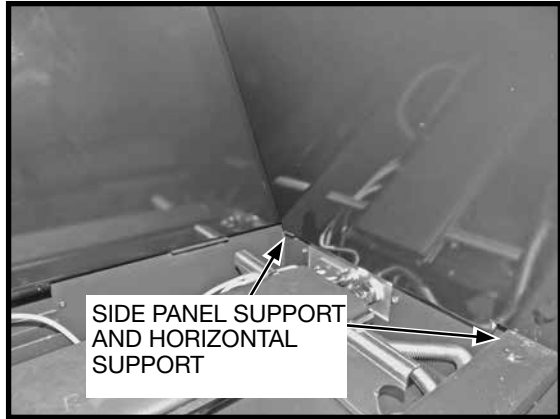

Figure 58: Right side panel.
4. While supporting the back panel insert one of the side panels into the firebox. Place the rear end of the side panels on to the side panel supports and rest the front end of the panels on the horizontal support (Figure 58).